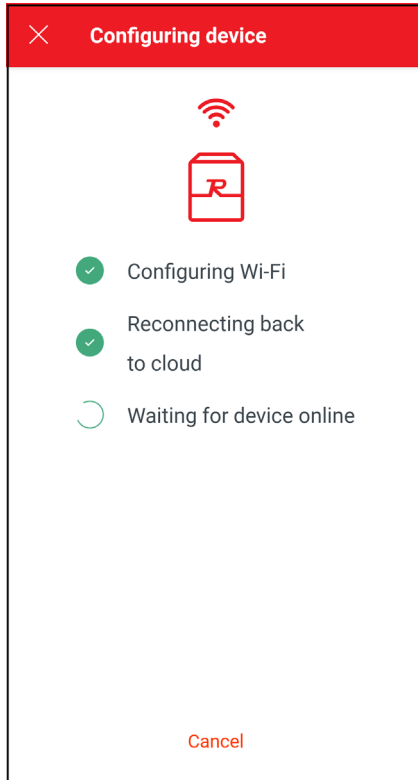

Figure 88. Configuring Device
6. The Raymote mobile app will provide the Wi-Fi network credentials to your unit. See **Figure 88**.